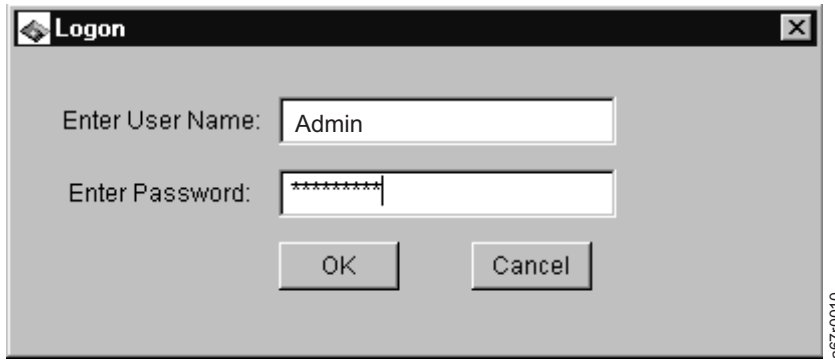
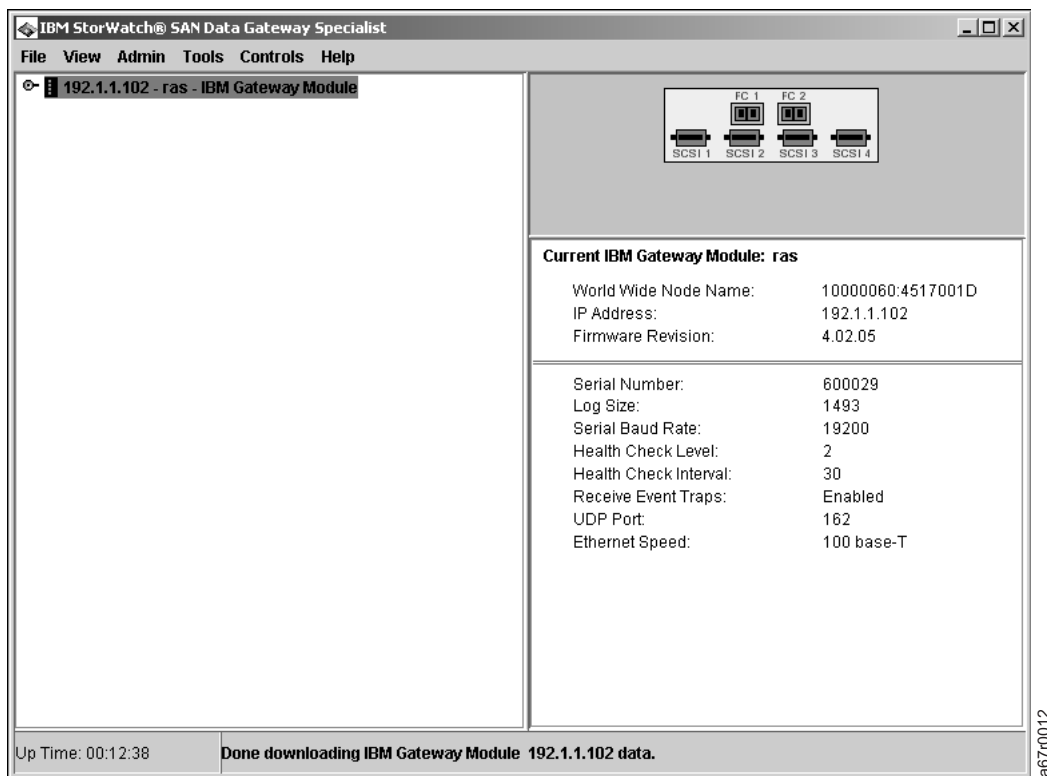

Figure 9-1. Logging on to the Server
Figure 9-2. Initial Tree View
- __ 5. To log on, type "Admin" in the Enter User Name field and type "password" (or the current password) in the Enter Password field, then click OK. Refer to Figure 9-1 on page 9-25 and Figure 9-2 on page 9-25.